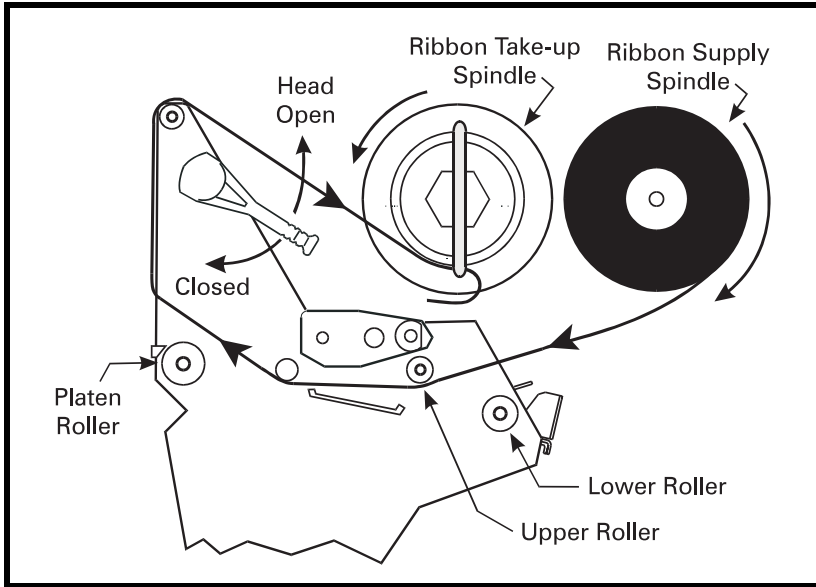

Figure 23. Ribbon Loading
To load ribbon, refer to Figure 23 and follow the procedure below.
7. Place the ribbon with leader around the ribbon take-up spindle and wind counterclockwise for several turns (see Figure 23).